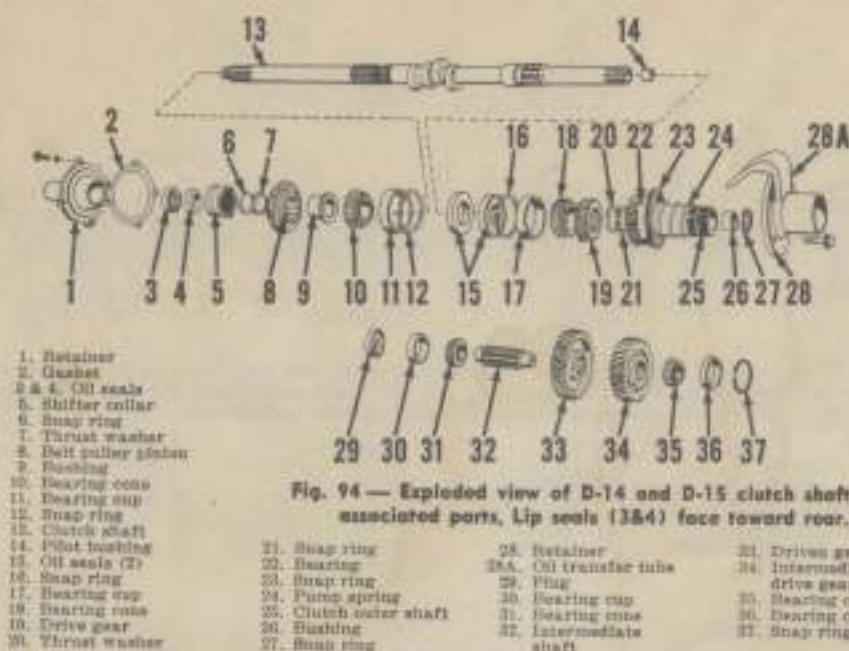

Fig. 94 — Exploded view of D-14 and D-15 clutch shaft and associated parts, Lip seals (3&4) face toward rear.
end of the "Power Director" clutch shifter fork shaft and the fork retaining set screw. Then withdraw the shifter fork and shaft. After removing the retaining cap screws, separate the torque tube from the transmission housing. Remove the hydraulic pump as outlined in paragraph 233 or 268. After removing snap ring (27—Fig. 95) and transfer tube (28A), withdraw the clutch outer (hollow) shaft assembly (25—Fig. 94). Remove snap ring (21), thrust washer (20) and drive gear (19). Remove the belt pulley assembly (or pulley opening plate) and the retainer (1). Remove the belt pulley shifter yoke and shaft, and the detent ball and spring. Bump clutch shaft (13) forward out of bearing (18) and withdraw shaft from the front.
Fig. 94 — Exploded view of the clutch shaft and associated parts used on D-17 tractors prior to tractor serial No. D17-75001. Lip seals (19) face toward rear. Oil seals (30) are not used after tractor serial number 38895. Refer to text.
19. Oil seal (2)	31. Clutch shaft	37. Snap ring	42. Bearing
22. Thrust washer	34. Oil seals (3)	40. Nut	45. Nut